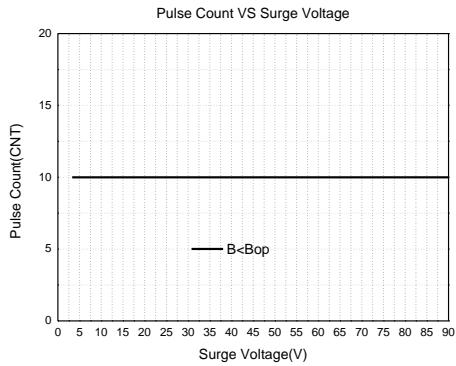

Figure7.Output Terminal Anti Surge Voltage
**Note3:** The Surge voltage in Figure 7 is a square wave with a high-level width of 5  $\mu\text{s}$  and a period of 20  $\mu\text{s}$ . This square wave consists of 10 cycles.